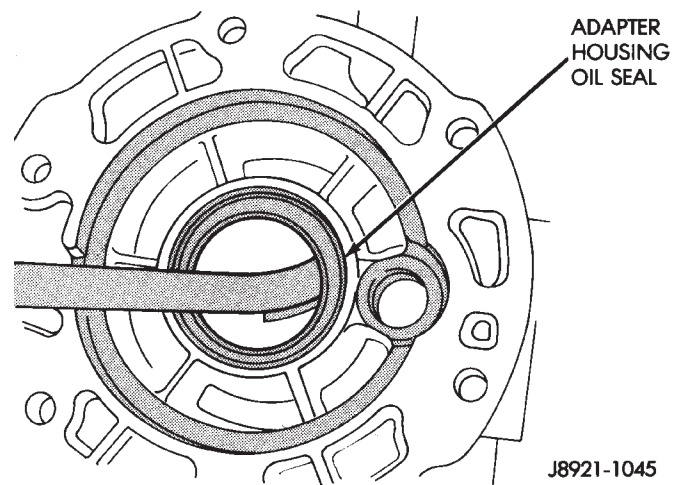

Fig. 15 Remove Adapter Housing Seal
(1) Hoist and support vehicle.
(2) Remove transfer case.
(3) Using a suitable pry tool, or a slide hammer mounted screw, remove the adapter housing seal (Fig. 15).